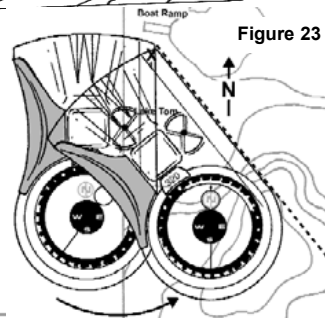

Figure 23
7. With bearing at 320° , pivot **compass** around landmark '1' until "circle over circle". (Fig 23)